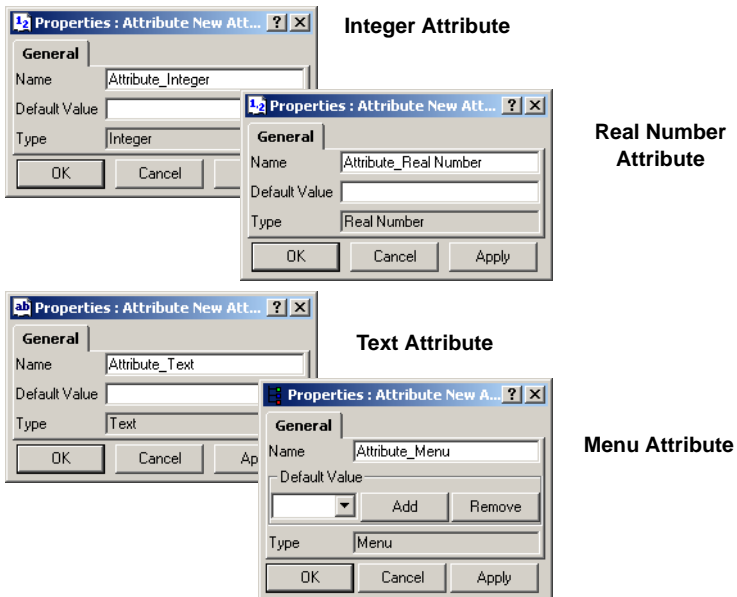

Figure 4-91. Edit Code Attributes
3. On the *Attributes* dialog box, enter the parameters for the code's attribute (Figure 4-91).